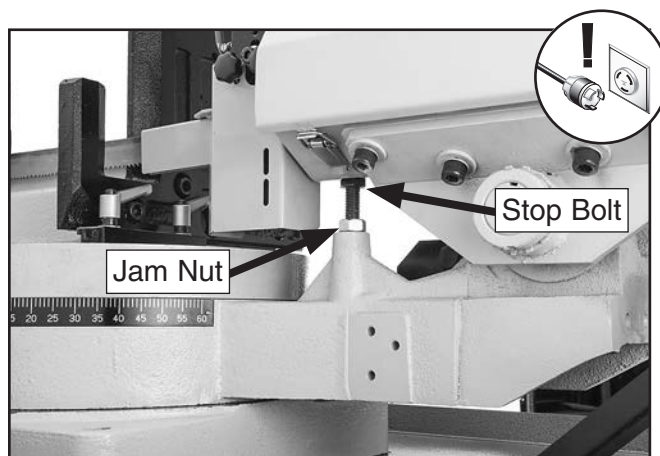

Figure 81. Downfeed stop bolt and jam nut location.
3. Adjust downfeed stop bolt and jam nut shown in **Figure 81**, so they contact bottom of headstock.